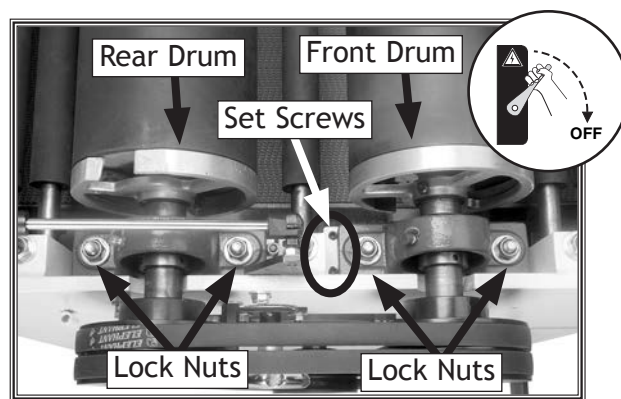

Figure 51. Front and rear drum adjustment locations.
- Loosen the rear drum pillow bearing lock nuts, shown in **Figure 51**.
- Loosen the front drum pillow bearing lock nuts (**Figure 51**).
9. Loosen the front drum pillow bearing lock nuts (**Figure 51, Page 37**).
10. Adjust the height of the front drum ends by adjusting the set screws (**Figure 51**) on the pillow bearing up or down until the largest size feeler gauge you can fit between the front drum and 36" long gauge blocks (at both ends) is 0.017"-0.025.